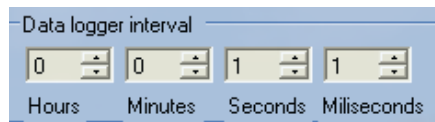

Figure 23 Data logger interval settings
- ✓ To set interval of data logging, set up the time interval in the data logger interval section (Figure 23) by **Hours**, **Minutes**, **Seconds**, or **Milliseconds**.